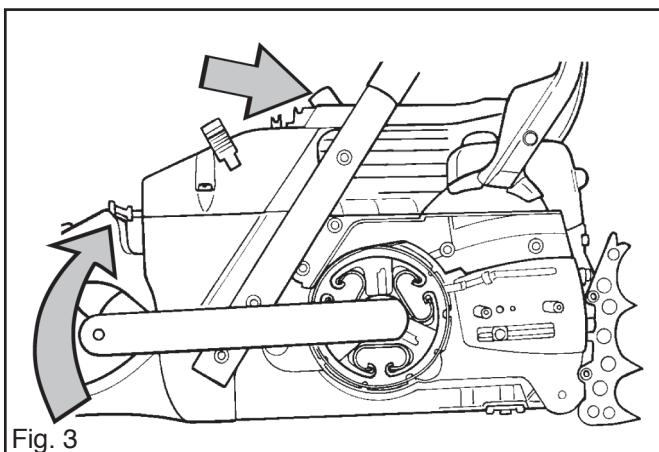

Fig. 3
4. Remove the spark plug, insert the piston stop tool and unscrew the clutch hub with the clutch tool. Note - left hand thread. Turn in the direction of the arrow as shown in fig. 3.